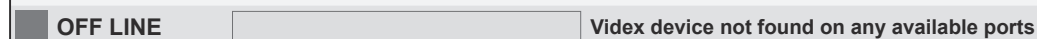
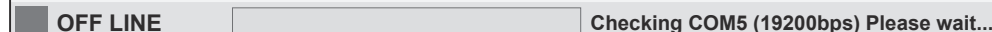
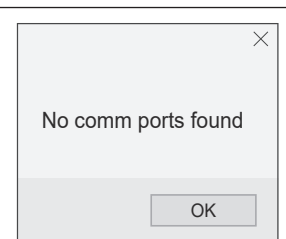

Fig. 126
Fig. 127
Fig. 136
- **OFF LINE:** see **Fig.126**, this indicates that the GSM module has not been detected by the PC software and is not connected. It should be noted that when the connection status is showing as **OFF LINE** the 'Data' and 'Sort' top menu options are greyed out and not available. These menu options will only become available when the software is connected to the GSM module and showing as **ON LINE**. To get the GSM module back **ON LINE** refer to the following notes: **GSM panel detection** and **Connecting the Software to the GSM module (ON LINE)** on page 15.
- **CHECKING COMM PORTS (OFF LINE):** see **Fig.127**, this indicates that the PC software is checking through the PC's available comm ports trying to make a connection with the GSM module, usually after the **Auto Detect** button has been pressed on the **main programmer window**. After a brief delay the panel type prompt window will appear (refer back to **Fig.12**, page 14) so that the appropriate GSM panel type can be selected before trying to re-establish a connection again between the GSM module and the PC software.
If there is an issue with the connection (whether it is the USB or RS485 connection) and the PC software is showing the GSM module is **OFF LINE** (as indicated by **Fig.126**) and the **REFRESH** button has been pressed on the **main programmer window** the no comm ports prompt window will appear, **Fig.136**. Click on the **OK** button then follow the **OFF LINE** notes on the previous page (also refer to **Fig.126** and **Fig.127**). If there is still an issue with the PC software detecting the GSM module also try following the notes on **GSM panel detection** and **Connecting the Software to the GSM module (ON LINE)**, on page 15, to try and resolve the issue.
- At this point the connection status at the bottom of the programming screen will show **OFF LINE**, refer to **Fig.126**.
- If the PC software is still showing the GSM module as **OFF LINE**, see **Fig.126**, then follow the notes **GSM panel detection** and **Connecting the Software to the GSM module (ON LINE)** on page 15.